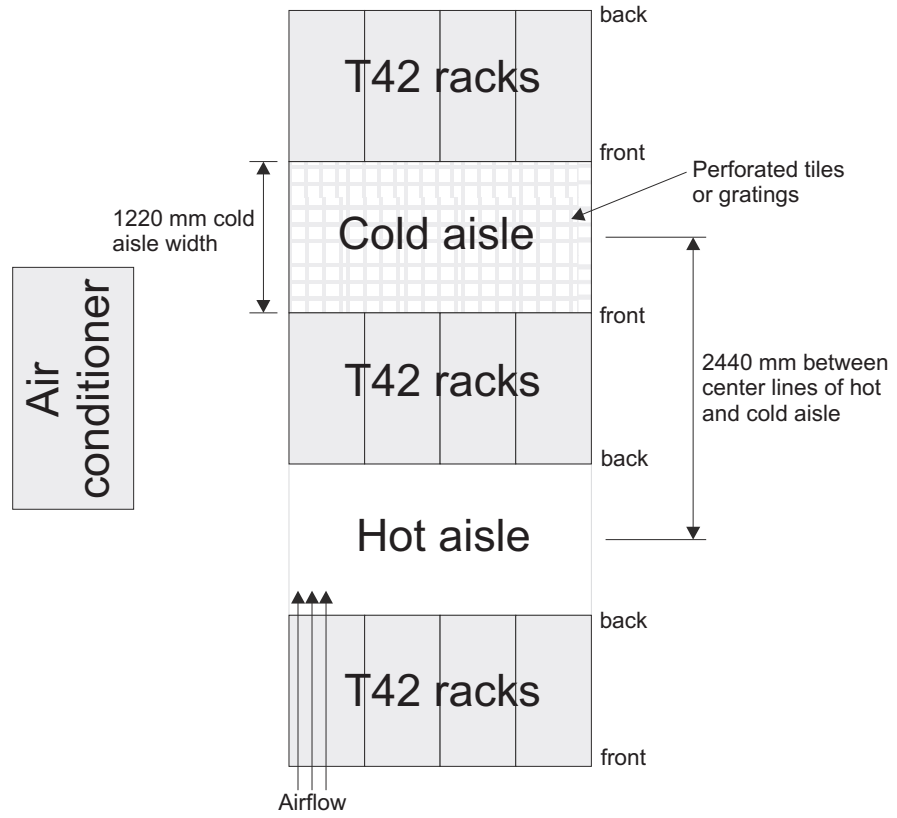

Figure 10. Example of cold aisle/hot aisle rack configuration
- Air enters at the front of the rack and leaves at the back. To prevent the air that is leaving the rack from entering the intake of another piece of equipment, you must position the racks in alternate rows, back-to-back and front-to-front. This arrangement is known as "cold aisle/hot aisle" and is shown in Figure 10 on page 19.